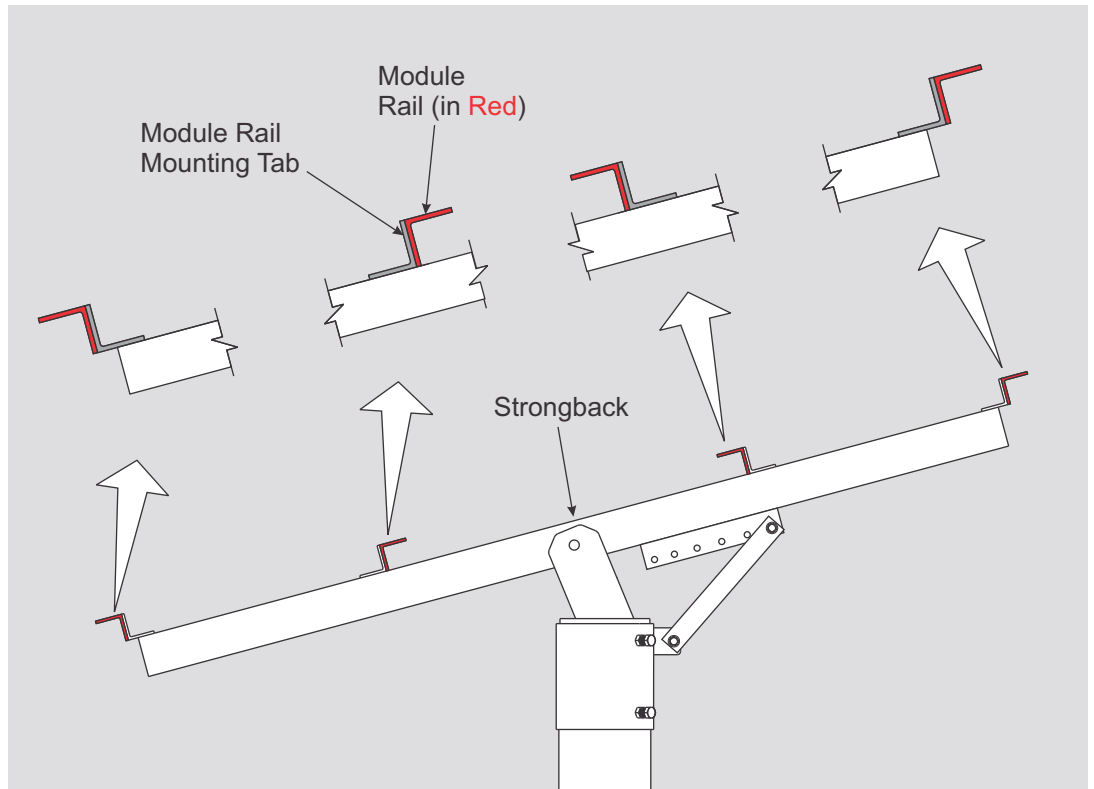
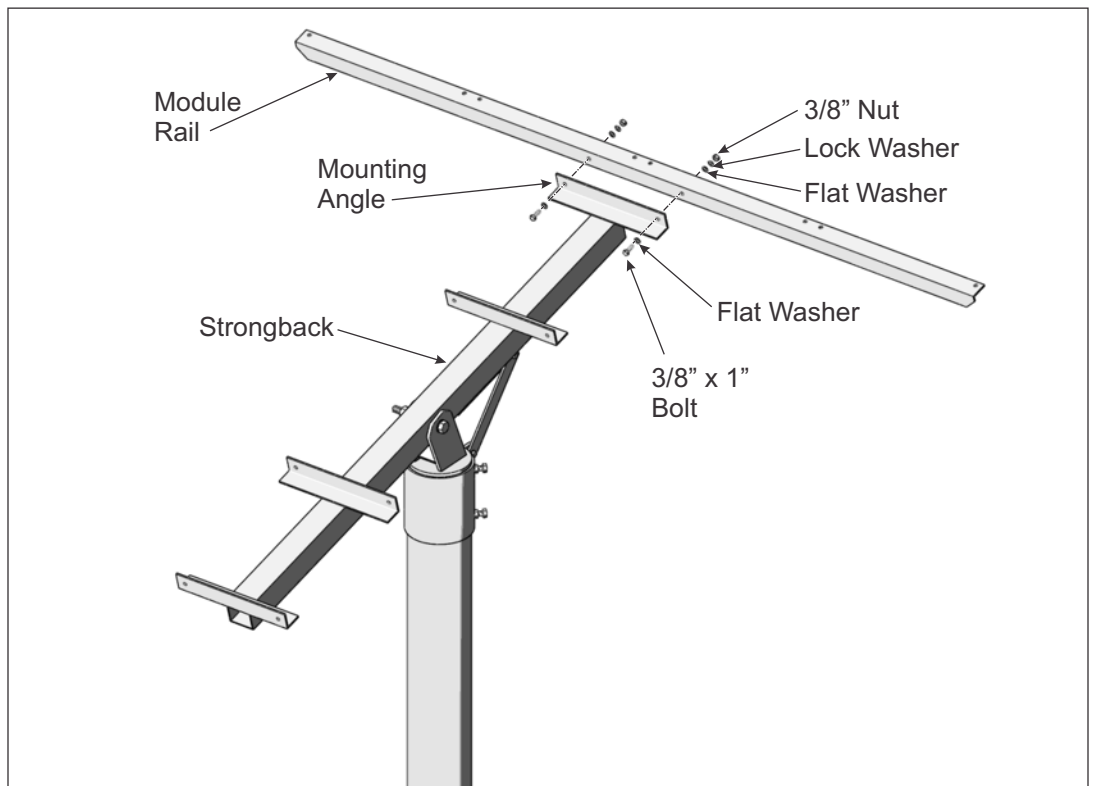
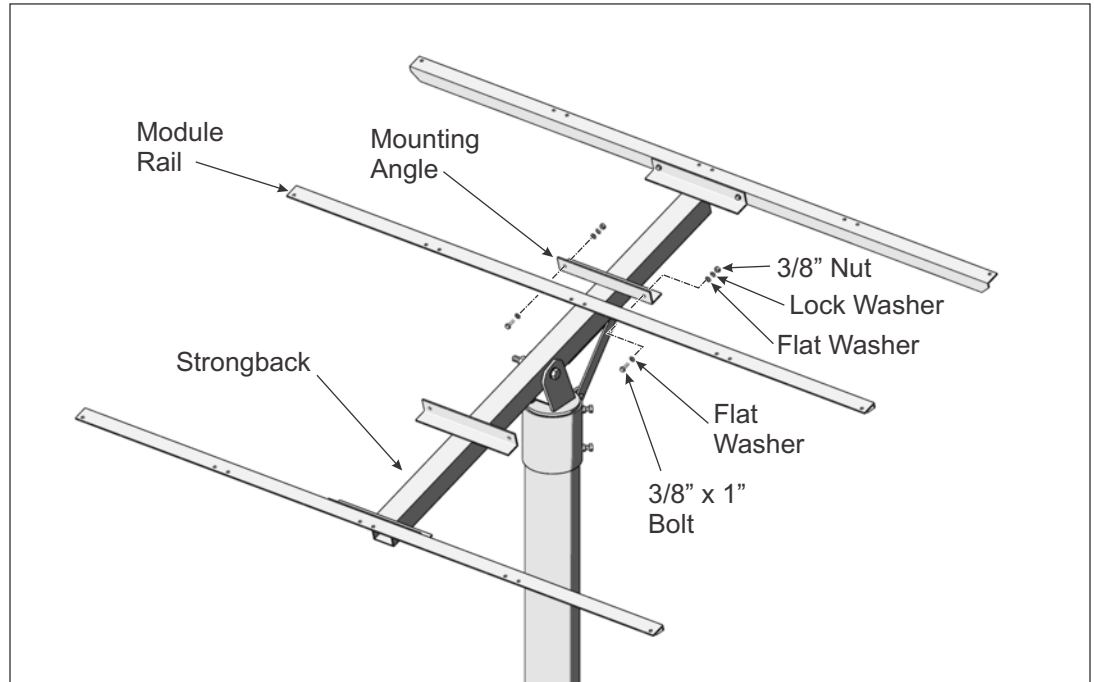

Figure 3-1: Module Rail Positioning relative to Mounting Angles
Figure 3-2: Installing Outboard Module Rails to the Strongback
Figure 3-3: Installing Inboard Module Rails to the Strongback
Module Rails are installed differently depending on whether they are mounted outboard or inboard on the Strongback. (See Figure 3-1)
- A. Referring to Figure 3-1 for orientation of the outboard Module Rails, position the first section of Module Rail. Align the Module Rail mounting holes with the holes of the Strongback mounting angles and secure with 3/8" x 1" bolts and hardware; each Module Rail has two attachment points. Finger-tighten for now. (See also Figure 3-2)
- B. Now install the opposite outboard Module Rail following the above procedure. Refer to Figure 3-1 as needed for orientation of the Module Rail.
- A. Referring to Figure 3-1 for orientation of the outboard Module Rails, position the Module Rail aligning the mounting holes with the holes of the Strongback mounting angles and secure with 3/8" x 1" bolts and hardware; each Module Rail has two attachment points. Finger-tighten for now. (See Figure 3-3)
- B. Now install the opposite inboard Module Rail following the above procedure. Refer to Figure 3-1 as needed for orientation of the Module Rail.